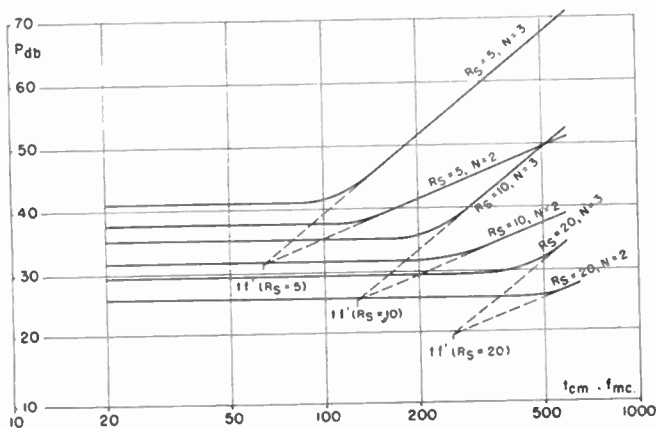

Fig. 6—Variation of P with frequency in the vhf and low uhf range, for several N and R_s (Fig. 2 configuration).
The variation of P with frequency is shown on Fig. 6 for the type C coated glass (dielectric = plate glass of $k=6.5$), where P in decibels is plotted against tf on a logarithmic scale for several N and R_s . In the frequency range whose upper limit is fixed by (34) and whose lower limit is given by: